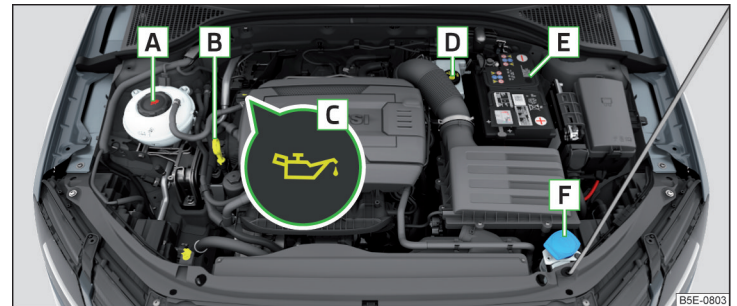

Fig. 315 Arrangement example in the engine compartment
- ▶ Unscrew the cap of the engine oil filler opening **C** » Fig. 315 on page 273. ▶